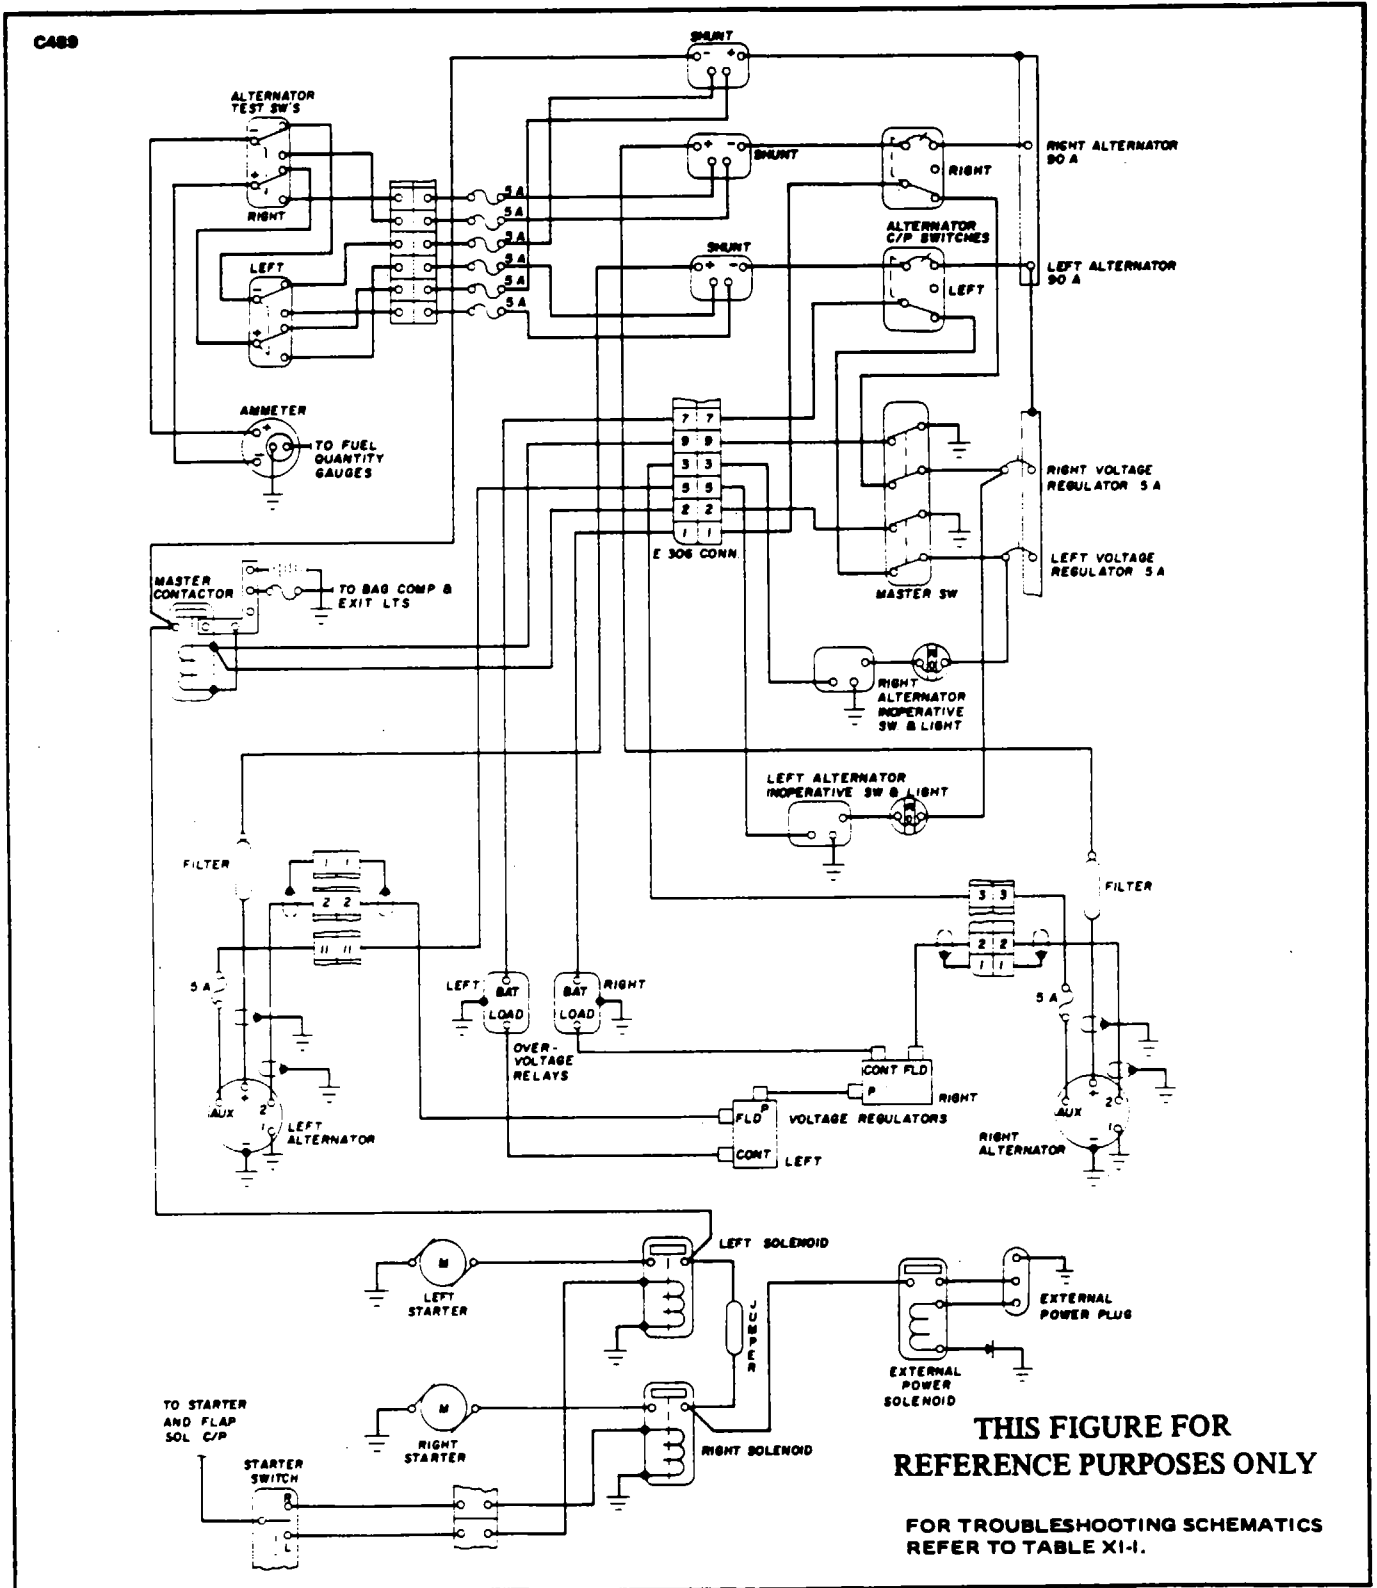

Figure 11-4. Alternator Paralleling System
11-9. CHECKING ALTERNATOR PARALLELING SYSTEM. The alternator paralleling system incorporates an ammeter which provides for an independent check of each alternator, as well as the charge/discharge current of the battery. In the event either ALTERNATOR INOPERATIVE light begins to glow or the ammeter check for either alternator fails to indicate an output, check the appropriate alternator circuit breaker switch, also the voltage regulator circuit breaker. If the circuit breakers are in their normal operating position, a further check of the alternator system should be accomplished. (Refer to Figure 11-4.)
- g. Should there be no indication of voltage, trace back through the output circuit until voltage is indicated. (Refer to Figure 11-4.) A component that does not indicate voltage at both its input and output terminals should be replaced.